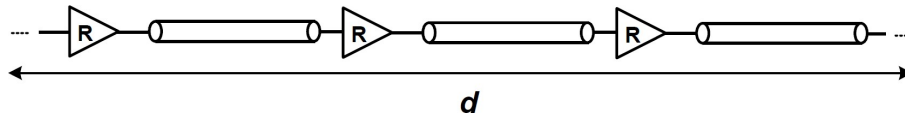

Figure 12 Inserting repeaters into an RC line.
5. An RC-wire with length of d is divided into N equal-length sections and between each section repeaters are inserted as shown in Figure 12. To get the optimal delay through the wire, what section length should be chosen? How many repeaters are needed? Assume that the propagation delay of each repeater is t_p and the wire resistance and wire capacitance per unit length is r and c , respectively.